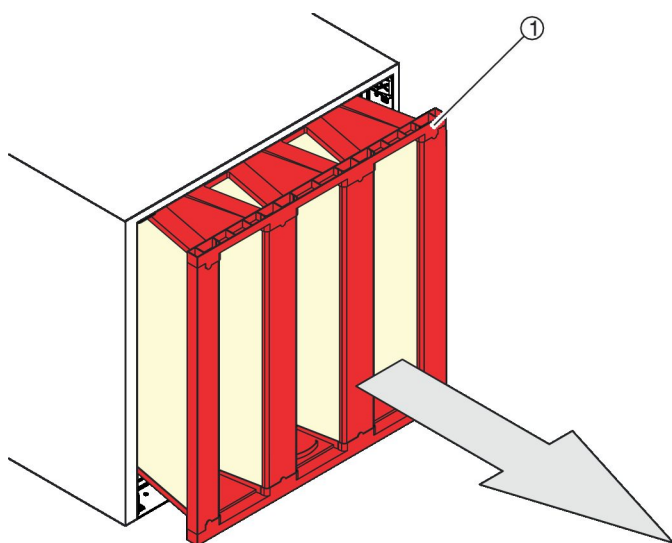

Fig. 21: Removing the filter element
5. ► Pull out the filter element (Fig. 21/1).